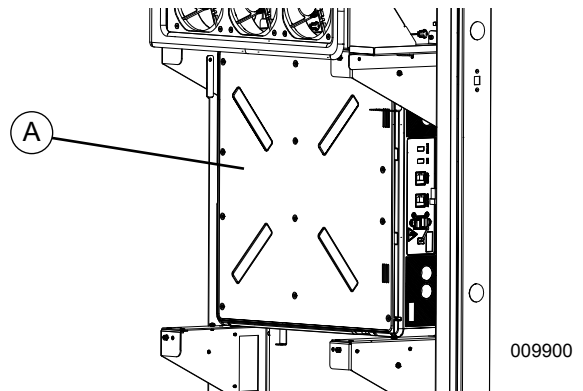

Figure 4-9. Installing Battery Modules
See **Figure 4-9**. When installing battery modules, install top, rear module (A) first, regardless of configuration.